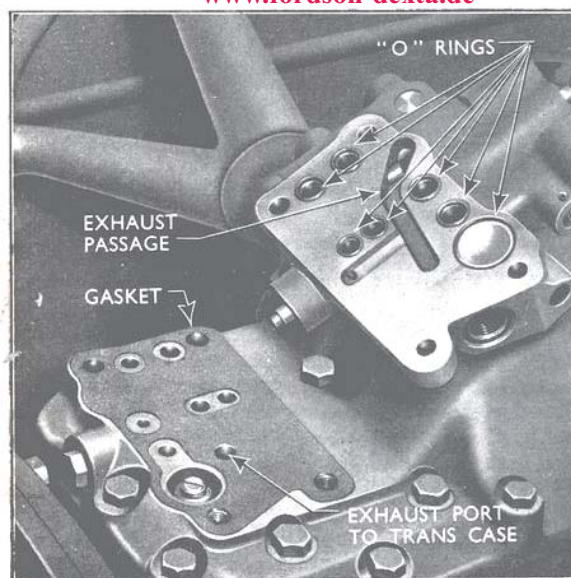

Fig. 52
2. Fit new "O" rings into their appropriate locations on the D.A.R. valve and a new gasket (see Fig. 52).